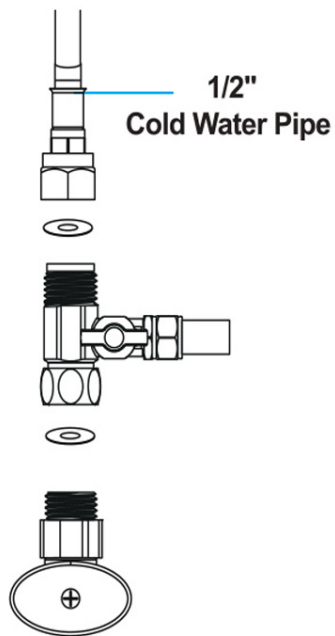

Figure 4
3. Twist the feed water adapter onto the cold water supply valve (with its washer) and tighten it with an adjustable wrench (Figure 4).